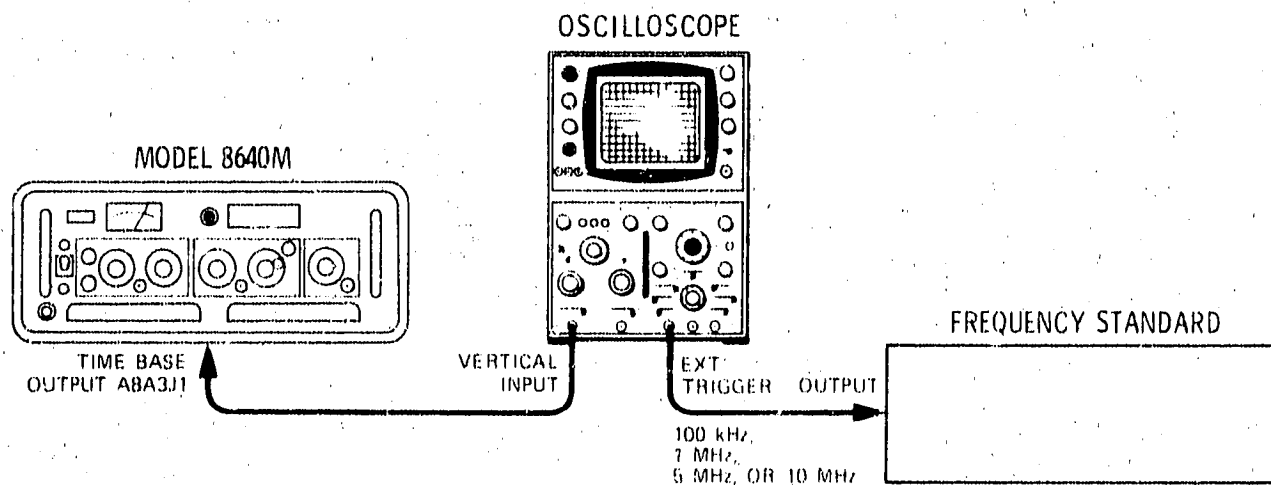

Figure 5-13. Internal Reference Frequency Adjustment Test Setup
3. Connect equipment as shown in Figure 5-13. Connect oscilloscope vertical input to A8A3J1 Time Base oscillator output.